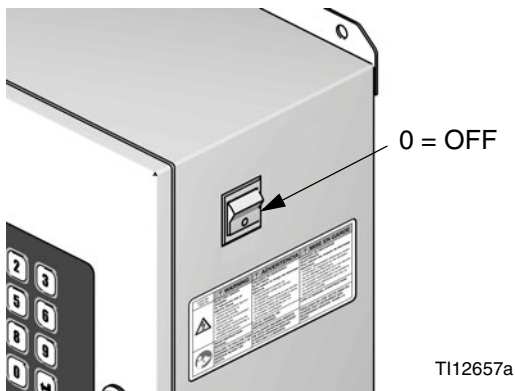

FIG. 3: Power Off
3. Shut off power (0 position). FIG. 3.